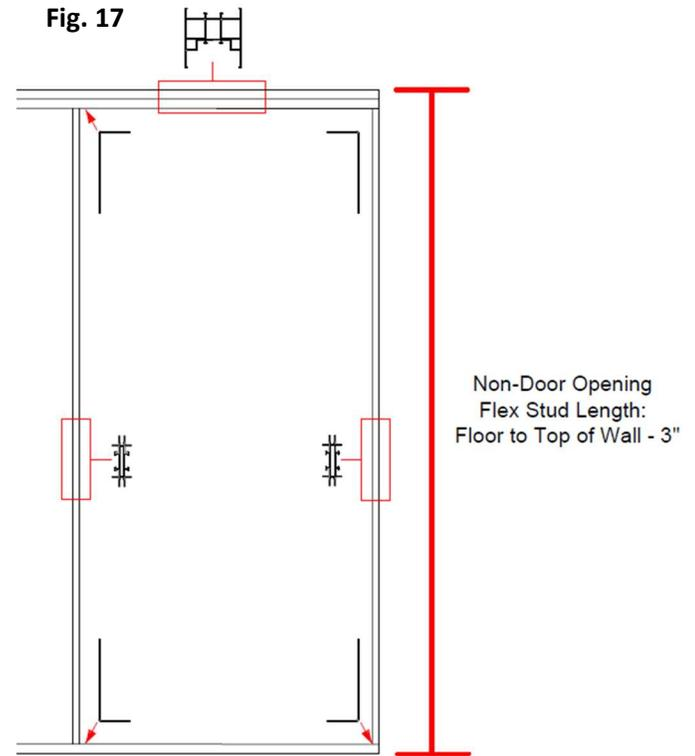

Fig. 18
- a. Allow air gap between the Flex Stud and Flex Track. This will give the ability to move the Flex Stud when setting the spacing between studs. Fig. 18.